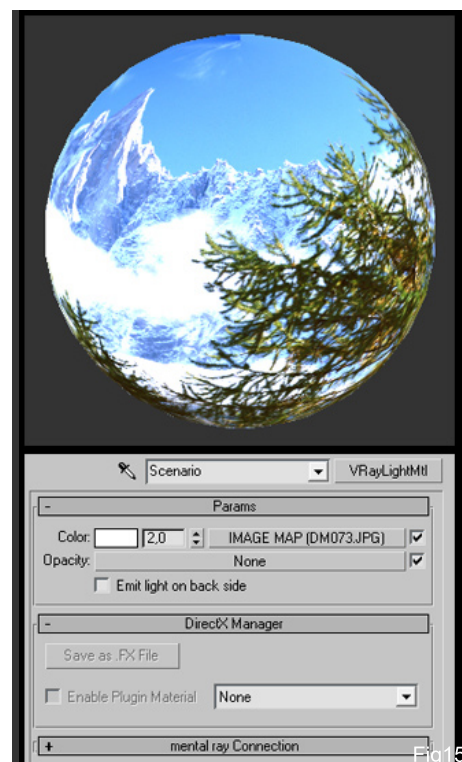

Fig15
**Background Material** – because I didn't have an HDRI for this image, I used a VrayLightMtl with a .JPG image applied and an Intensity of 2 in the Color slot. This gave me a soft light and reflections in the interior (Fig15).